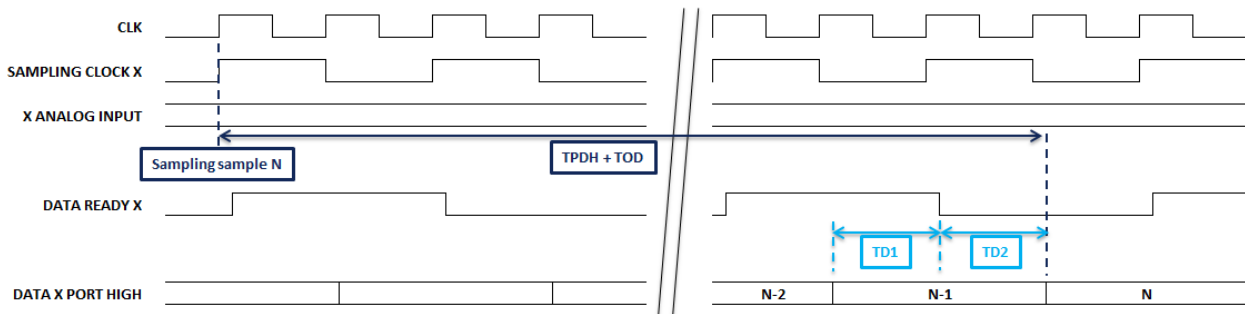

Figure 3: Timing diagram in DEMUX 1:1
3. Refer to timing diagrams in Figure 3 and 4.
For both figures 3 and 4, X represents either channel A or B. If channel A and B are interleaved, the internal sampling clocks of channel A and B are in opposition and their output data and data ready are delayed by 1 external CLK cycle.